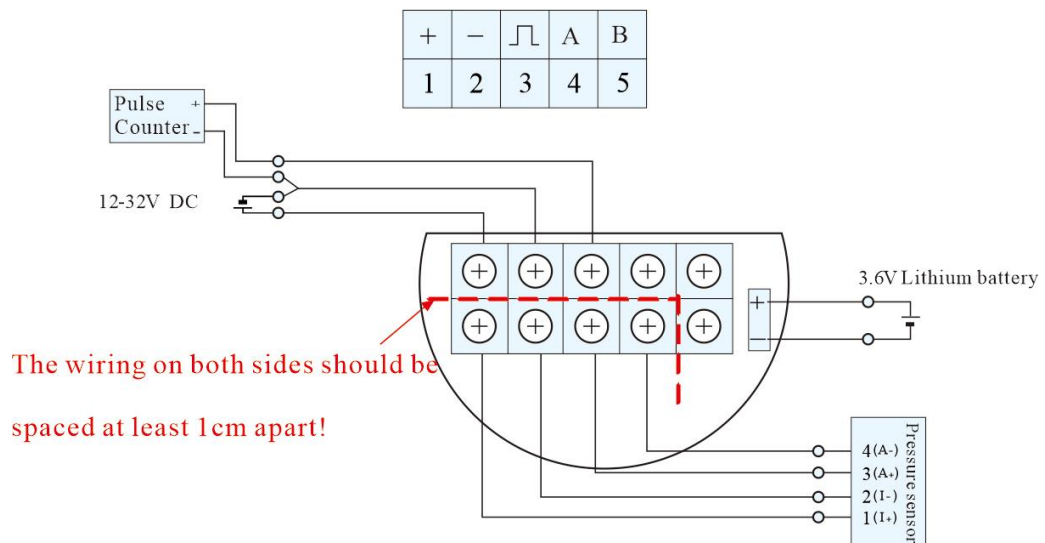

Fig. 20
6. Dual power supply+pulse output+pressure sensor (Fig. 20).